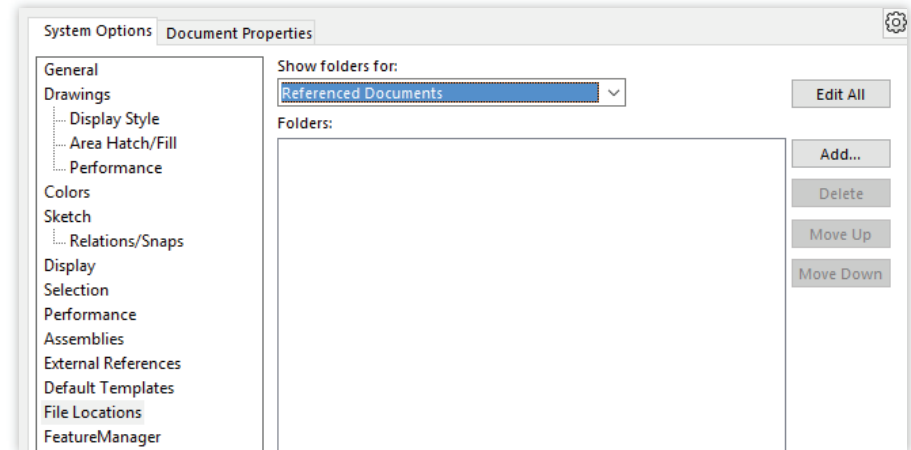

Fig. 30
7. Open the **File Locations** page. Under the **Show Folders for** drop-down list, select **Referenced Documents**. Do not add any paths for the referenced documents as this will slow down performance. See Fig. 30.